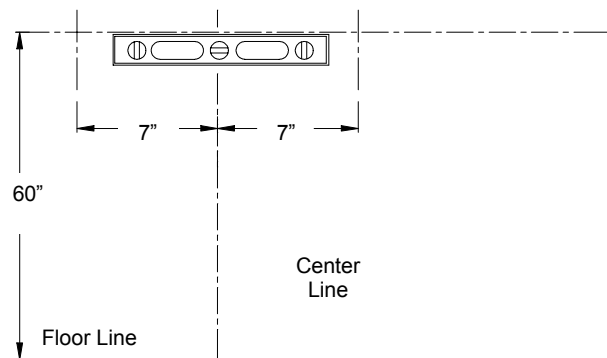

FIGURE 3
1. Determine and mark the vertical center line for installation of the manifold (Figure 3). This centerline will indicate where the vertical portion of the manifold will be located.